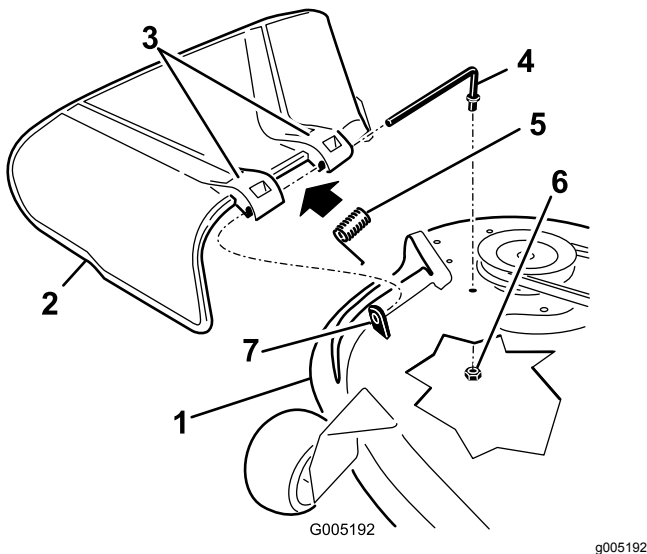

Figure 61
1. Remove the nut (3/8 inch) from the rod under the mower (Figure 61).
2. Slide the rod out of the short standoff, spring, and grass deflector (Figure 61).
4. Replace the grass deflector (Figure 61).
7. Slide rod through the second grass-deflector bracket (Figure 61).
9. Secure the rear end of the rod into the mower with a nut (3/8 inch) as shown in Figure 61.